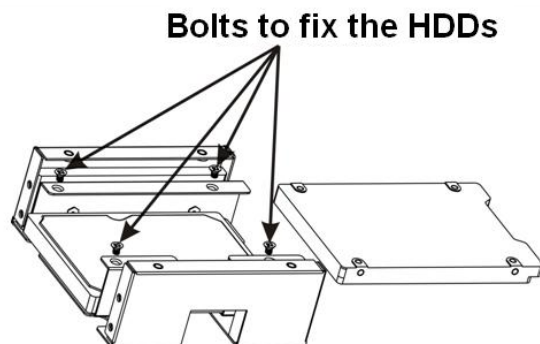

Figure 3-4
4) After install the bracket and then turn down the box, you can see an interface shown as in Figure 3-4. Insert the HDD to the HDD bracket as the direction shown as in Figure 3-4 and fix the bolts firmly.